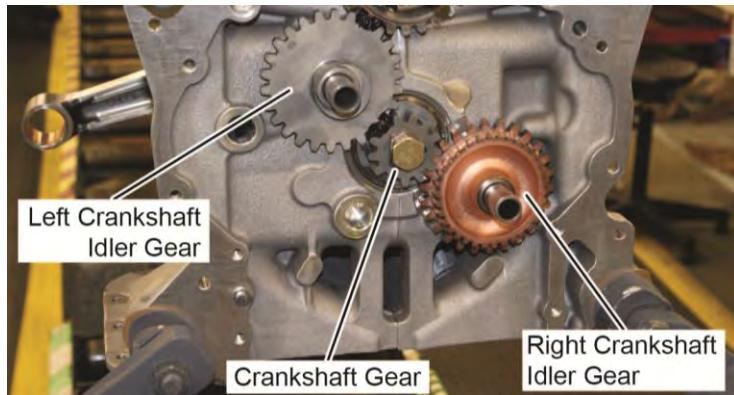

Figure 84
- A. Install the left crankshaft idler gear (Figure 84) with a new bushing in place on the crankshaft idler gear shaft located to the left of the crankshaft gear. Turn the crankshaft gear and/or the camshaft gear to align the gears.